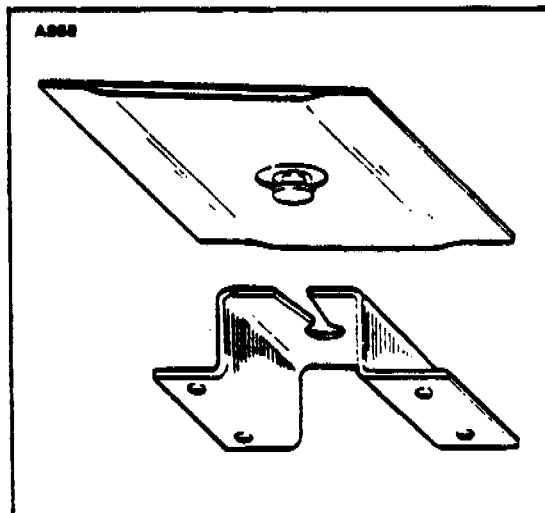

FIGURE 8-8. BUTTON FASTENERS
h. On the outboard cells of the PA-24-400 both the bayonet clips and button pin type fasteners are used. (Refer to figure 8-8.) To disconnect this cell from its fastener plates, release all the top fasteners which are the bayonet clips. After the top has been released, reach under the cell and work the pin type fasteners from their bracket plates. The front-outboard pin is worked outward while the aft-outboard pin is worked rearward. The inboard fasteners are all worked inward toward the fuselage. The center fasteners are the bayonet type.